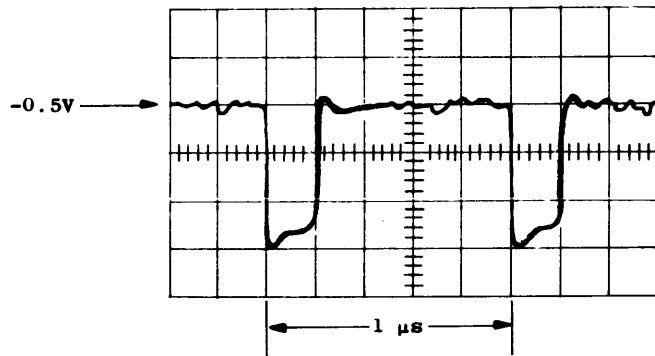

FIGURE 3.2-1 ONE MEGACYCLE PULSE TRAIN
3. Check the Master Oscillator for a 1 megacycle square wave by switching the Clock Mode to "normal" and pressing the START button while scoping the output of the Master Oscillator at EA D₄ S₂. A 1 megacycle pulse train should be present. (Refer to Figures 3.2-1 and 3.2-2).
2. With the Clock Mode switch in "normal", press the START button and scope the output of the local clock driver, MCLD-EA (Pin EA B8 P7). A 1 megacycle pulse train should be present. (Refer to Figure 3.2-1).